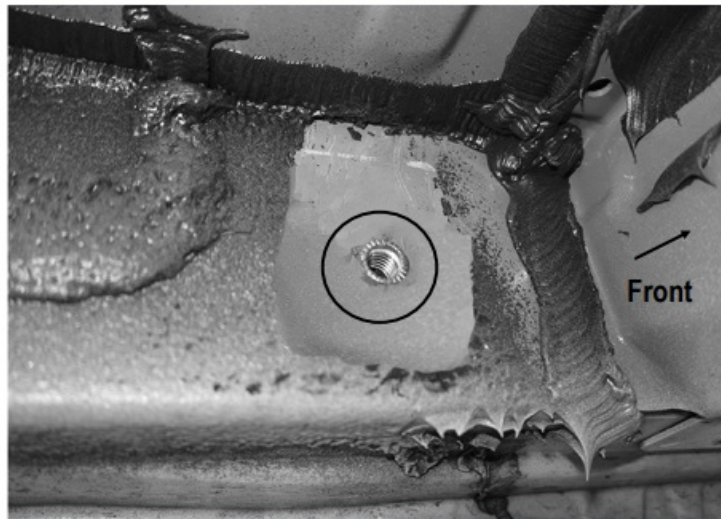

**Fig 7**
- Locate the single factory hole as previously described in Step 2, (Fig 6). Select the Rivet Nut Installation Tool, (1) M10 Rivet Nut, (1) M10 Large Flat Washer, (1) M10 Hex Nut and (1) M10X1.5-35mm Hex Bolt. Assemble the tool as pictured in Fig 7.